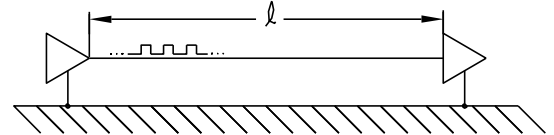
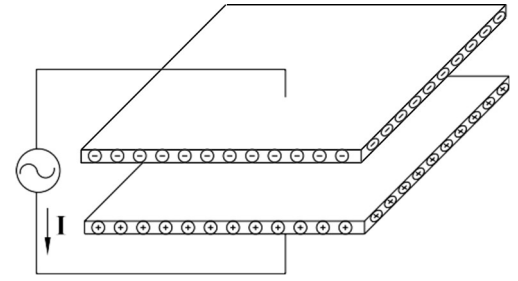
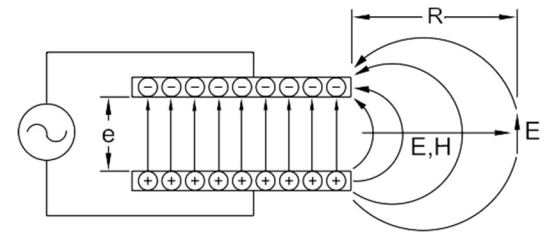

Figure 1
Figure 3
Figure 4
A radiated electromagnetic (EM) wave is generated by the action of driving a current through a wire. An example is that of Figure 1 which represents a sending/receiver circuit on a PC card.
The undergraduate courses on EM theory introduced the concept of an EM wave by using Maxwell's derivation of displacement current. (i.e., driving a pair of parallel plates with an AC voltage source as illustrated in Figure 3.) The current that flows through the wire comes from the top plate and is stored in the bottom plate. The over-presence of the electrons on the bottom plate is illustrated by $\oplus$ and the absence of electrons on the top plate is illustrated by $\ominus$. This creates an EM wave which is illustrated in Figure 4. The EM wave, consisting of the straight lines, is classified as a displacement current and is in Amperes per meter squared. The magnitude of the E field is equal to the voltage differential between the plates divided by the distance between the plates in meters. The resultant E field is in Volts per meter (e.g., a set of parallel plates is used to calibrate electric dipole antennas.)
As is illustrated in Figure 4, the lines of flux in the center of the plates are straight and flow from the bottom to the top plate. At the edges they bow out, where the fields or lines of flux repel each other, forcing the bowing. The field that bows out represents a radiated EM wave. The radiated EM wave emanating from the trace of Figure 1 is similar to the radiated EM wave illustrated in Figure 4. The electric "E" field is tangent to the lines of flux (displacement current) as illustrated in Figure 4. The magnetic "H" field is a field perpendicular to the displacement current and points out of the paper (right hand rule).
The set of plates as illustrated in Figure 4 produce a wave similar to that of the PC card trace of Figure 1 (and of an electric dipole antenna). If the transmitted power is known, the field strength can be calculated using the dipole antenna equation, i.e.,